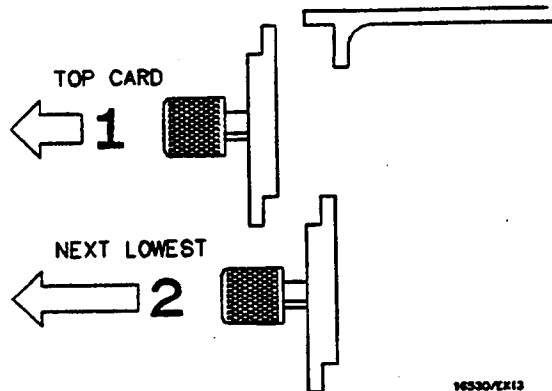

Figure 4-1. Endplate Overlap
- c. Starting from the top, begin pulling card(s) and filler panel(s) out half way. See figure 4-1.